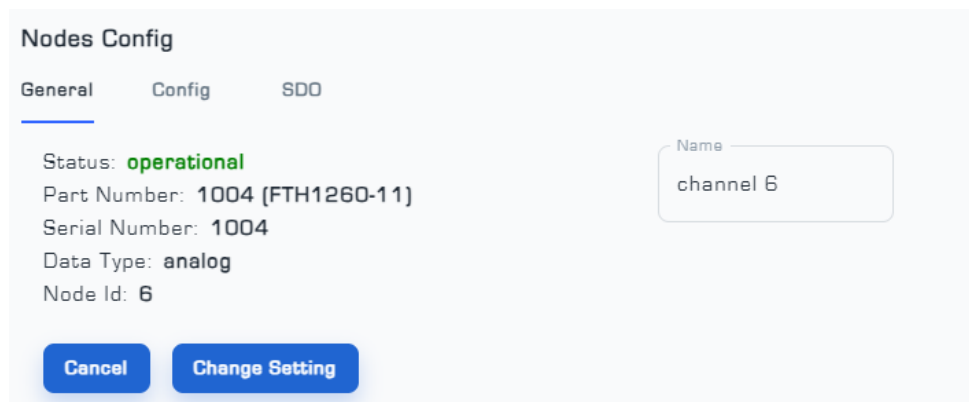

Figure 5: General Menu from Nodes Setting Page
To apply the settings to the Node, click on it to display the Node settings page (Nodes Config) (Figure 5).
- The General menu includes information about the Node status, model, serial number, input data type, and Node number. You can also choose a custom name for the Node and even deactivate it if necessary (Figure 5).